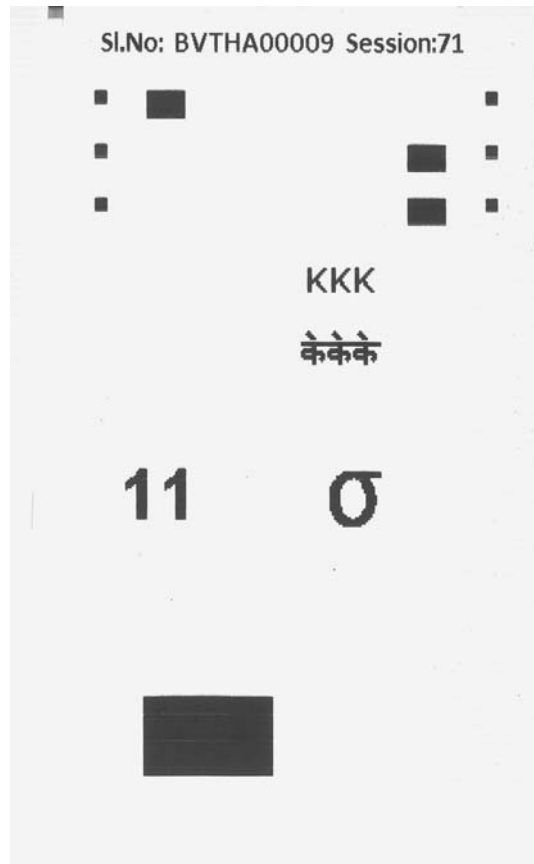

Figure 1.1 - View of the Printed Ballot Slip
- (a) When the VVPAT - M3 system is used with the EVM, it provides a visual verification to the voter by way of printing the cast vote on a thermal paper ballot slip. When the voter presses the button on the Ballot Unit (BU) to vote for the candidate of his / her choice, the VVPAT - M3 system prints a ballot slip of size 99 mm length. This ballot slip (Figure 1.1) contains :
- (c) A sample photograph of VVPAT - M3 printed ballot slip is shown in Figure 1.1.